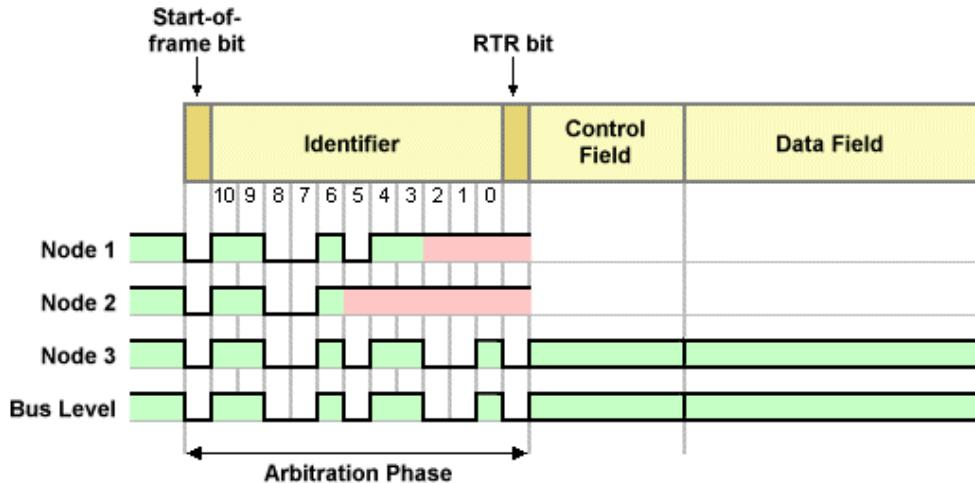

Figure 1.4: Example for CAN arbitration
Based on the identifier of a message it is decided which node can send its message, because the identifier specifies the priority of the message. An identifier with a low number has got a high priority and an identifier with a high number results in a low priority of the message. Each time multiple nodes wants to send a message the collision is solved by comparing the identifier of the message with the state of the CAN bus. How this comparison can solve the collision can be seen in the example below, shown in Figure 1.4.
identifier number. At the top of Figure 1.4 you can see the content of a CAN message beginning with the identifier field. In the beginning the nodes transmit (from left to right) the same bits of their message identifiers until they get to the first difference at bit at 5. At the time when bit 5 is transmitted node 2 will notice that there is at least one other node which is sending as well because its recessive bit (1) is overwritten by the dominant bits (0) of node 1 and node 3. At this point node 1 and node 3 don't know that they are sending synchronously. At the time when bit 2 is transmitted there is the next difference between the identifiers. Node 1 will now notice that there is another node with a higher priority sending as well. Node 3 won't notice anything. For node 3 the sending process looks like there was no other node trying to send a message the whole time. Due to the fact that node 3 had the highest priority (and therefore the lowest identifier number) it begins to send its remaining data while node 1 and node 2 stop sending.